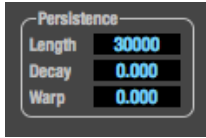

Figure 10-17: The Persistence controls.
The *Persistence* controls (Figure 10-17) affect the appearance of data from when it is first displayed until it disappears from the grid.
*Length* (Figure 10-17) sets the number of recent samples to show on the plot. For example, when Length is set to 10,000, the 10,000 most recent samples are shown.
*Decay* (Figure 10-17 on page 89) determines the brightness or hue of the minimum value. When Decay is zero, the oldest sample is black. When Decay is +1.000, the oldest sample is fully opaque (in Grayscale mode) or red (in Color mode).
*Warp* (Figure 10-17) determines the position of data points after they are first drawn. When warp is zero, data points remain in the same position. When warp is positive, they contract towards the